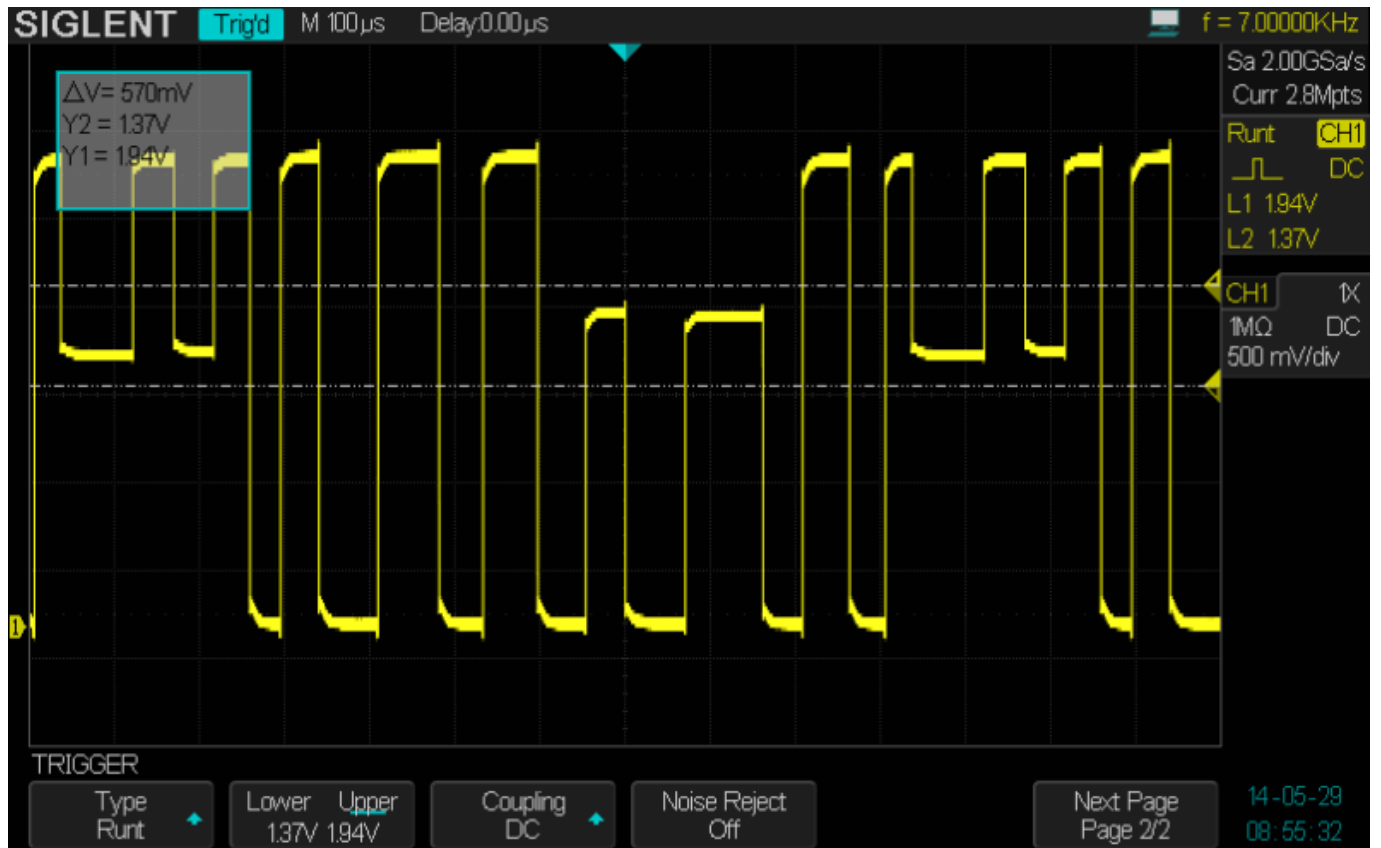

Figure 7: triggered runt pulses
3. The signal is now stable, as shown in Figure 7.